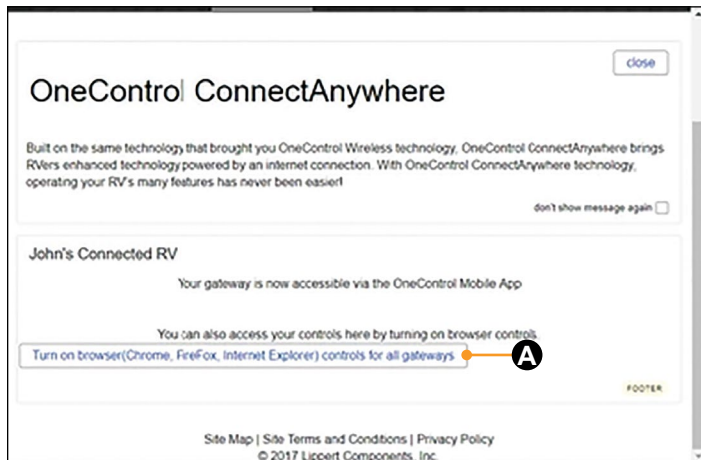

Fig.33
2. The ConnectAnywhere landing page (Fig.33) will display.